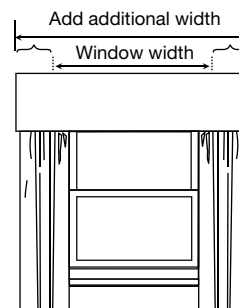

Figure 3
- 2 Add any additional width desired, especially if hanging curtain panels or sheers under cornice (figure 3).